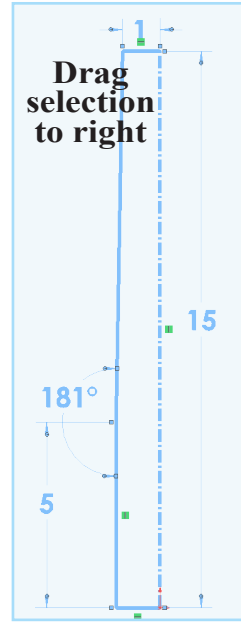

Fig. 5
Step 1. **Drag selection around the sketch** to select all entities, **Fig. 5**. To drag selection, click above and to left of sketch and drag down and to right to select all.